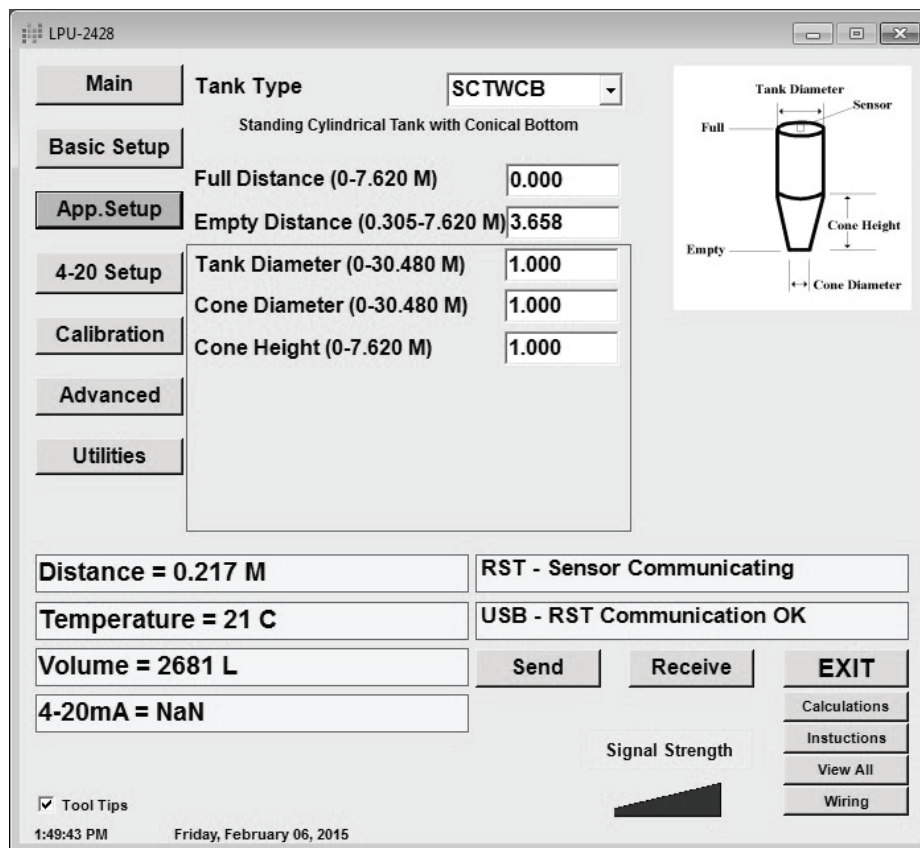

Figure 4.8
*Cone Diameter* (*Cone Dia* on the RST-4001) sets the lower diameter of the cone chute on a standing cylindrical tank (SCTWCB). (See Figure 4.8)
*Cone Height* (*Cone Hei* on the RST-4001) sets the height of the cone chute on a SCTWCB. (See Figure 4.8)